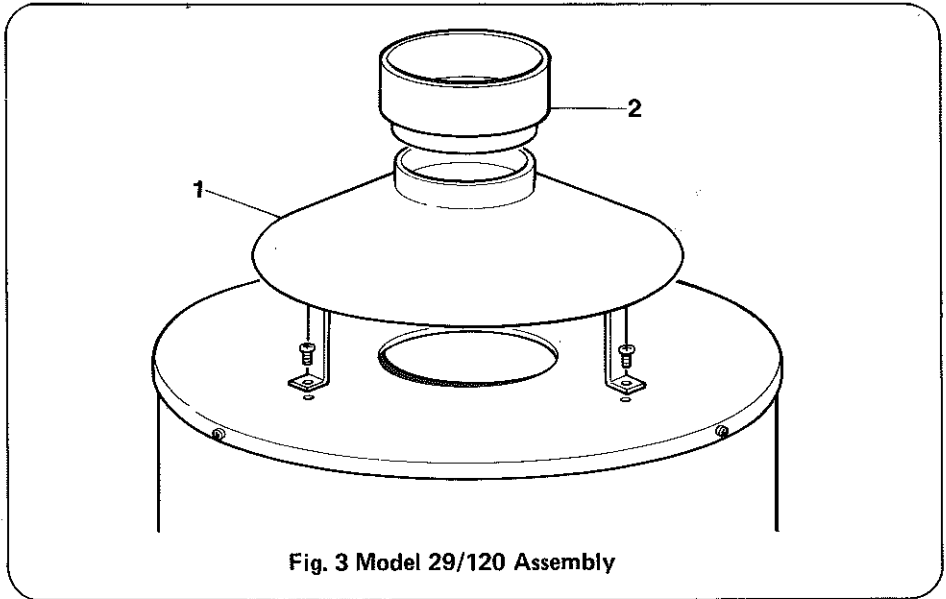

Fig. 3 Model 29/120 Assembly
- Fit the draught diverter (1) to the water heater as shown in Fig. 3 using the screws provided.
- Fit the adaptor socket (2) and caulk into the draught diverter as shown in Fig. 3.